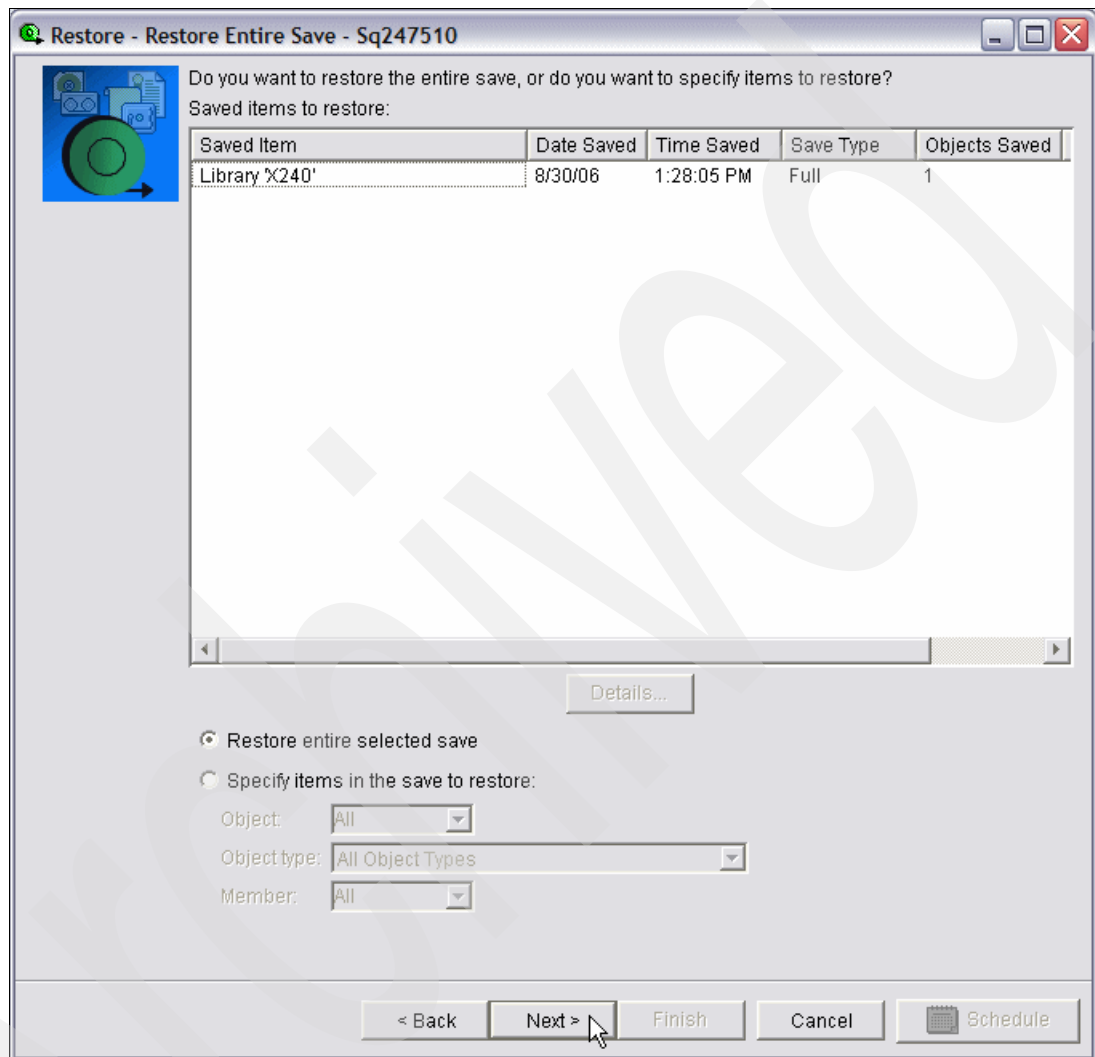

Figure 6-100 Restore - Restore Entire Save
6. When you have selected an i5/OS library, the next window Restore Entire Save (Figure 6-100) asks if you want to restore the whole library with its content or only some objects within the library. In our simple example, we had no objects in our X libraries, therefore there is nothing to select to restore, except the library itself.